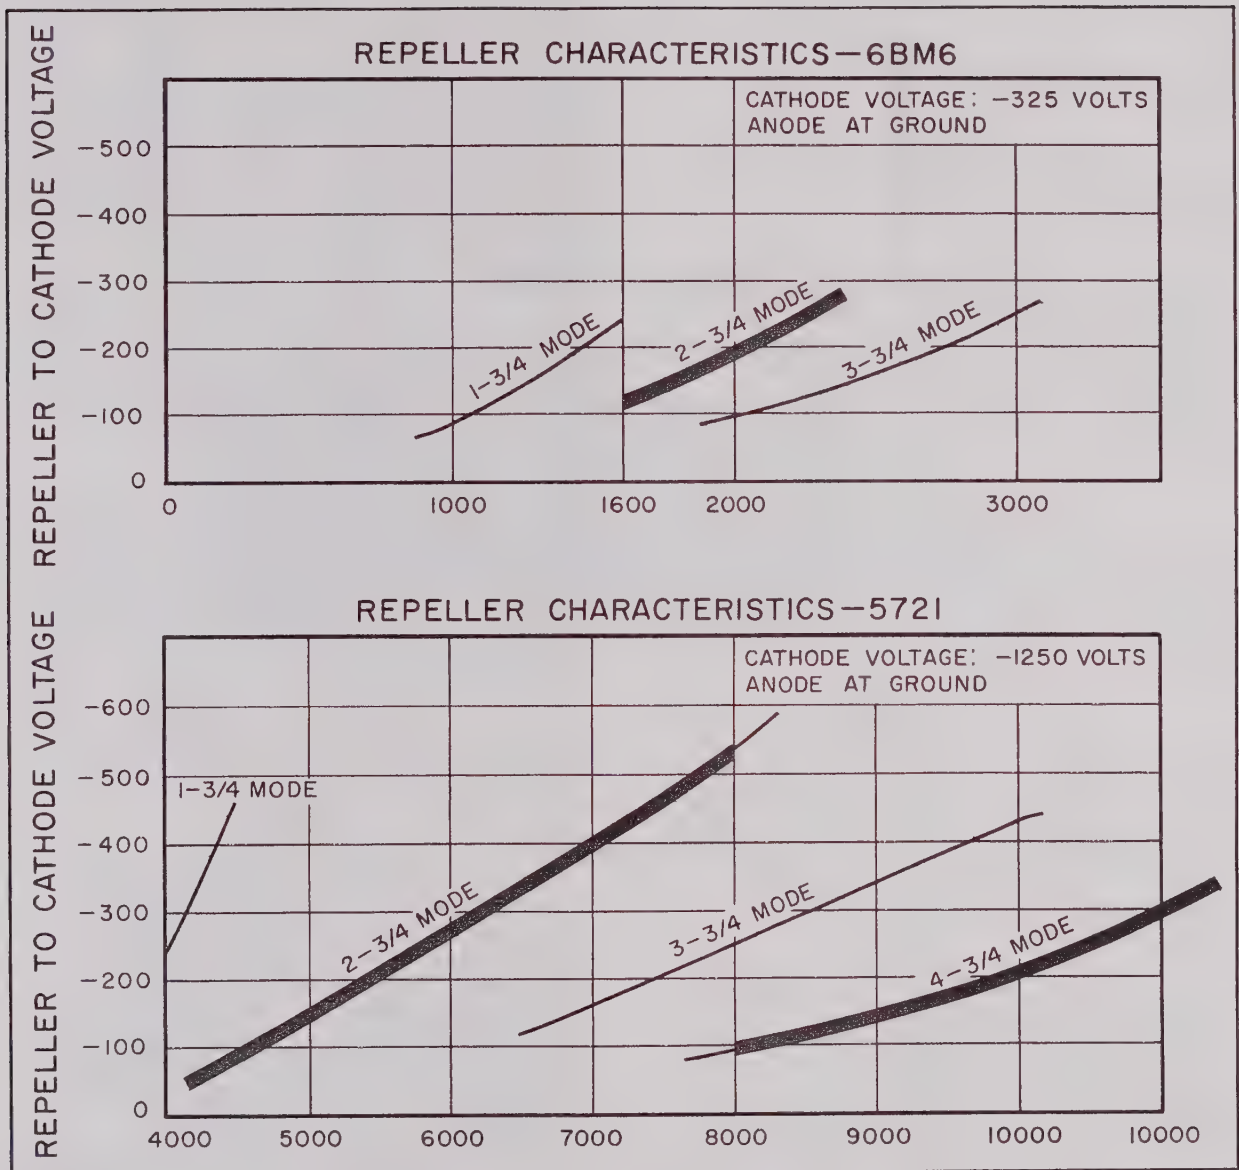

Figure V-29. Repeller Characteristics, 6BM6 and 5721.
(f) To determine which is the correct mode of operation, refer to Fig. V-29. The 1-3/4 mode is used from 900 to 1600 MCS. and the 2-3/4 mode is used from 1600 to 2350 MCS
(1) Connect a voltmeter between the two white test jacks (Ref. 3 and 10, Fig. V-25). By referring to Fig. V-29 it can be seen that the mode of operation for 1700 MCS is the 2-3/4 mode and that the voltage should be approximately -120 volts across cathode and repeller.
(e) Adjust the wavemeter or signal generator to 8010 mc (L.O. + 160 mc). Proceed as described in paragraph g.1.(d), (e), and (f) above. However, now the modes of operation are the 2-3/4 and 4-3/4 modes of the 5721 klystron. By referring to Fig. V-29, it can be determined that the 1-3/4 mode is used from 4560 mc to approximately 7450 mc and the 4-3/4 mode is used from 7950 mc to 11.01 kmc.
(f) Connect a voltmeter between the two white test jacks (Ref. 4 and 15, Fig. V-25). Fig. V-29 illustrates that 7850 mcs on the dial (8010 mcs on the wavemeter or signal generator) is on the low end of the 4-3/4 mode and that repeller voltage across the test jacks should be approximately -100 volts.